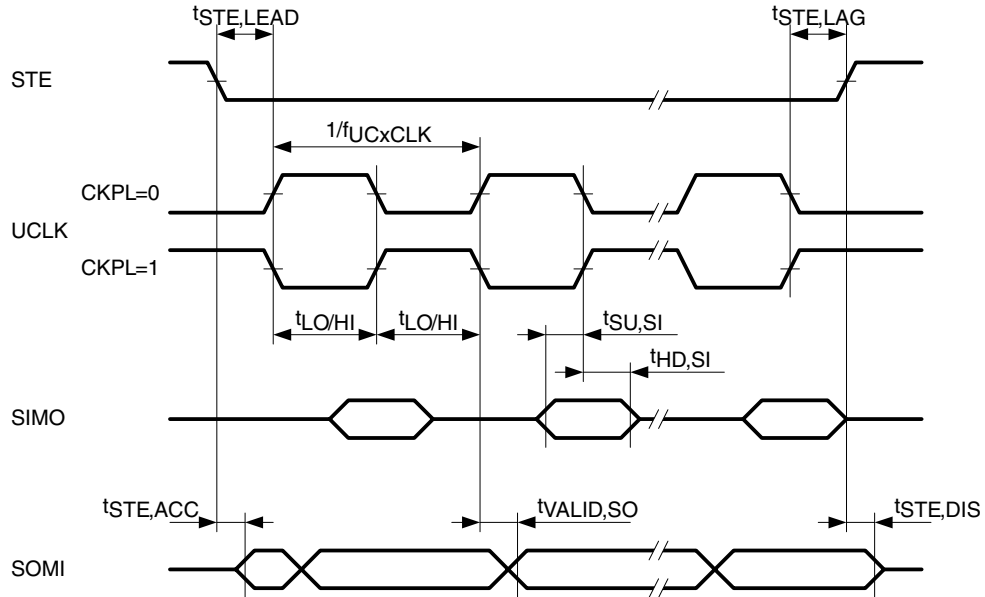
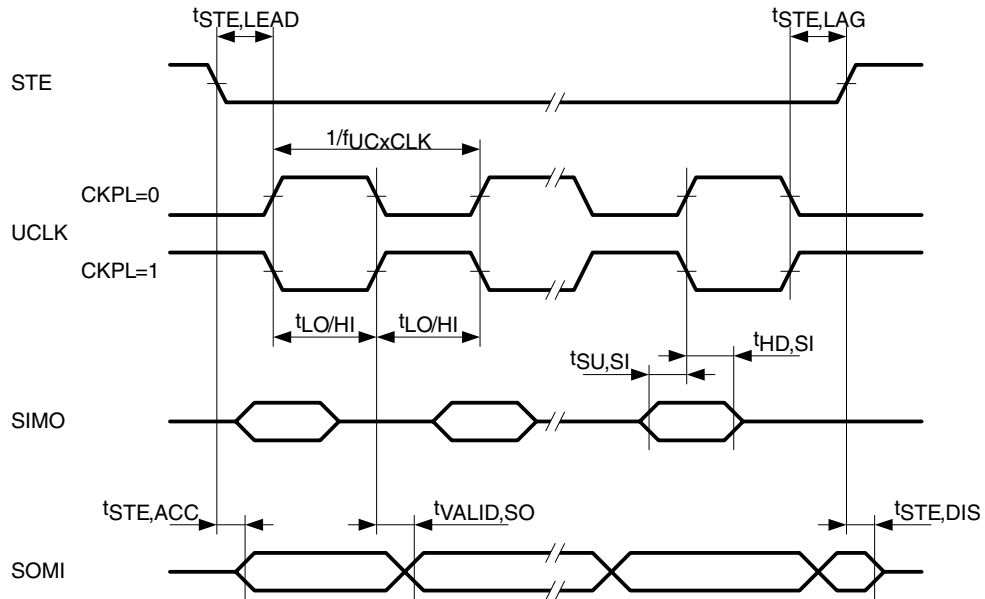

Figure 23. SPI Slave Mode, CKPH = 0
Figure 24. SPI Slave Mode, CKPH = 1
**USCI (SPI slave mode) (see Figure 23 and Figure 24)**